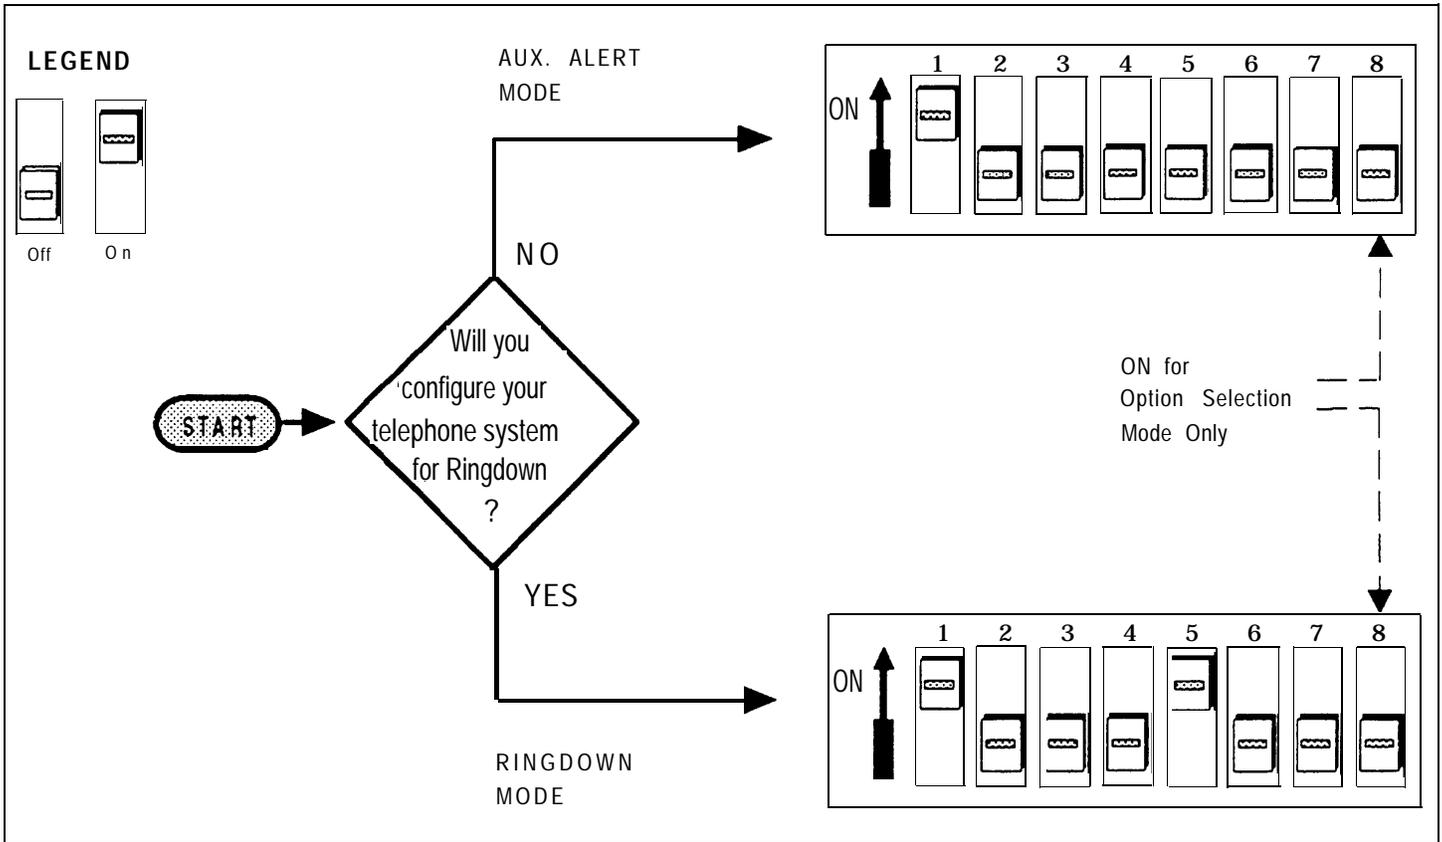

Figure 5-1. DIP Switch Configuration for Telephone System with Dedicated Station Access, Station Mode
To customize the AT&T Door Phone Controller to your specific installation and option requirements, you must properly set the 8-position DIP switch located on the AT&T Door Phone Controller front panel (see Figure 5-1).
*Use the flow chart in Figure 5-1 to properly set the DIP switch.*
When using the AT&T Door Phone Controller with a telephone system which has an available dedicated station port, set the DIP switch as shown in Figure 5-1. Prior to setting this DIP switch, you must know if the telephone system is configured for auxiliary alert mode or ringdown mode (see page 1-5 for explanation of ringdown and auxiliary modes).
To customize the AT&T Door Phone Controller for this type of installation, you must properly configure the 8-position DIP switch located on the Door Phone Controller front panel (see Figure 1-1). Use the Flow Chart in Figure 5-1 to properly set the DIP switch.